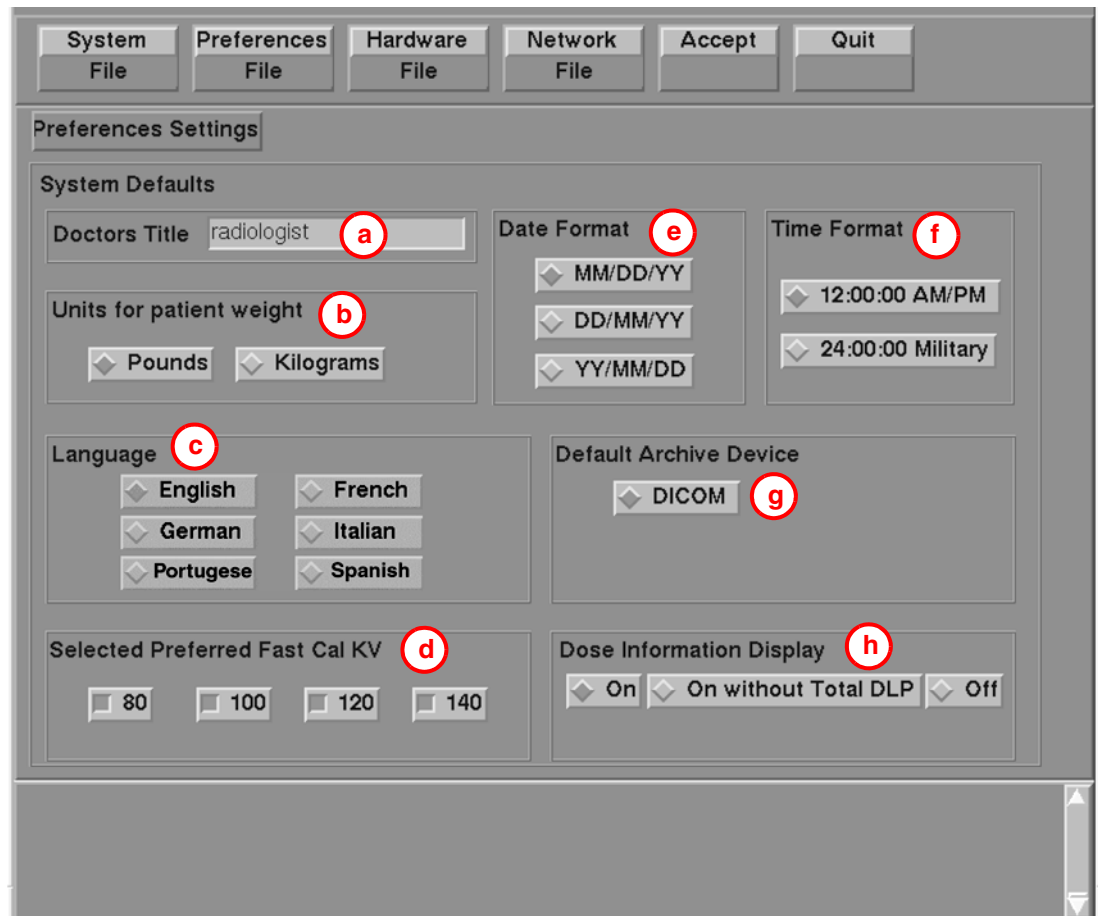

Figure 6-13 Preferences Setup Screen
- 5.) Select the PREFERENCES button to display the Preference Settings Screen as shown in Figure 6-13.
- 7.) Select the HARDWARE button (see Figure 6-13) to display the Hardware Settings Screen (see Figure 6-14).